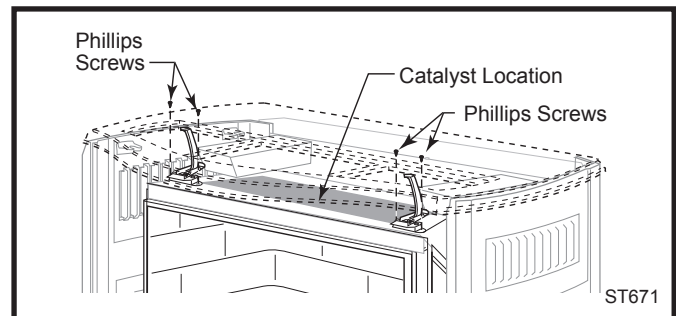

Fig. 19 Attach glass latches.
6. Latches provided in catalyst kit must be installed on top of firebox. Use two phillips screws to secure in place. (Fig. 19)